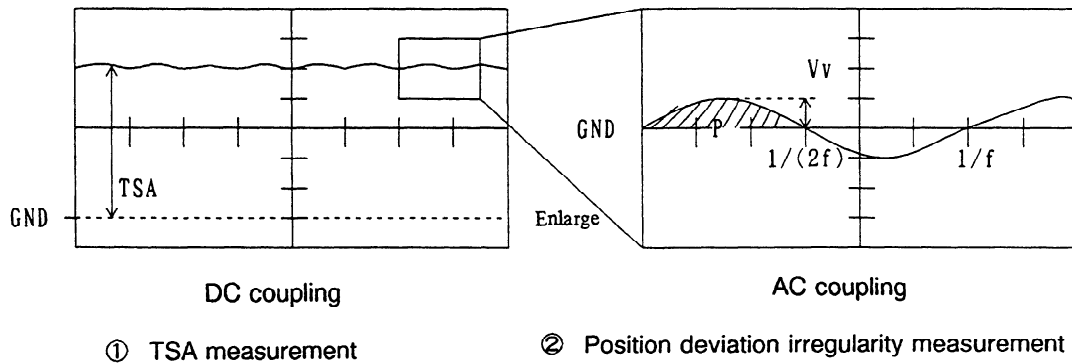

Fig. 6.8 (a) Measuring the TSA and position deviation irregularity
In ② in Fig. 6.8 (a) velocity deviation  $V_v$  (V) and vibration frequency  $f$  (Hz) is measured. If the checkboard has standard settings, it is 1000rpm when  $TSA = 2.4V$  and therefore
If the velocity ( $V_p$  (pulse/s)) of the oblique line in ② in fig. 6.8 (a) is integrated it is possible to calculate the position ( $P$  (pulse)) deviation in between. Assuming the vibration waveform to be a sine wave, the calculation formula is